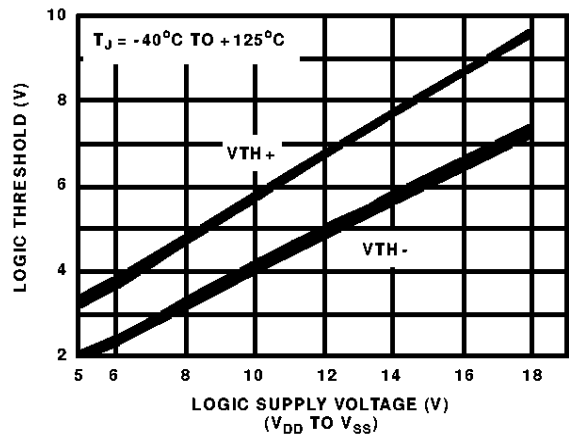

FIGURE 8. INPUT LOGIC THRESHOLD vs SUPPLY VOLTS
2. See Figure 8 for logic supply voltages other than 15.0V.